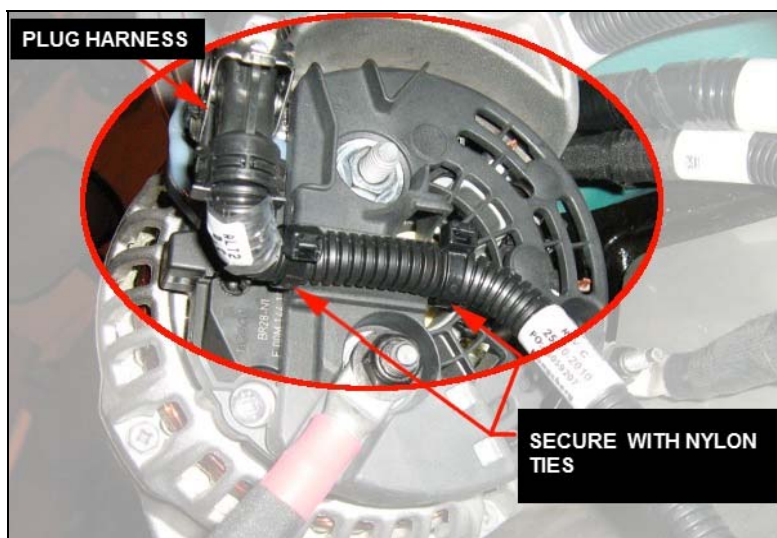

FIGURE 31
- Plug lower alternator harness onto lower alternator connector and secure using two nylon cable ties #504637 (**FIGURE 31**).